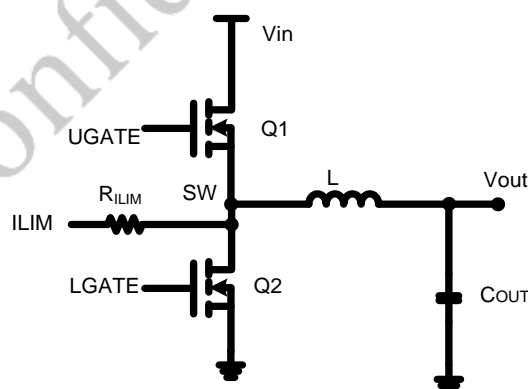
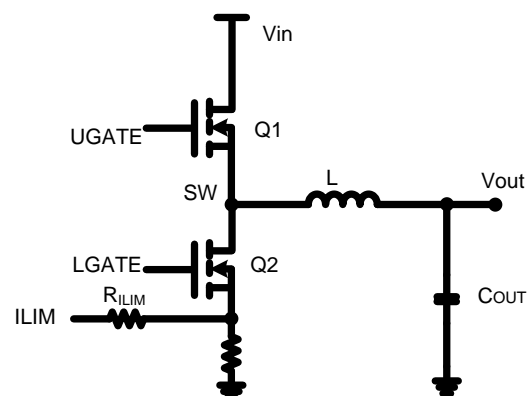

Figure15. MOSFET  $R_{DS(on)}$  Current Sensing
Figure16. Shunt Resistor Current Sensing
JWH6346 has a cycle-by-cycle overcurrent limiting control. A valley current limit is designed in the JWH6346 so that only when output current drops below the valley current limit can the high-side MOSFET be turned on. To provide both good accuracy and cost effective solution, the JWH6346 supports temperature compensated MOSFET  $R_{DS(on)}$  sensing mode and shunt resistor sensing mode, and it detects the appropriate mode at start-up and sets the source current amplitude and temperature coefficient (TC) accordingly. Figure15 portrays the  $R_{DS(on)}$  sensing mode which resistor  $R_{ILIM}$  is tied to SW to use the  $R_{DS(on)}$  of the low-side MOSFET as a sensing element (termed  $R_{DS(on)}$  mode) and Figure16 shows the shunt resistor sensing mode which  $R_{ILIM}$  is tied to a shunt resistor connected at the source of the low-side MOSFET (termed  $R_{SENSE}$  mode).